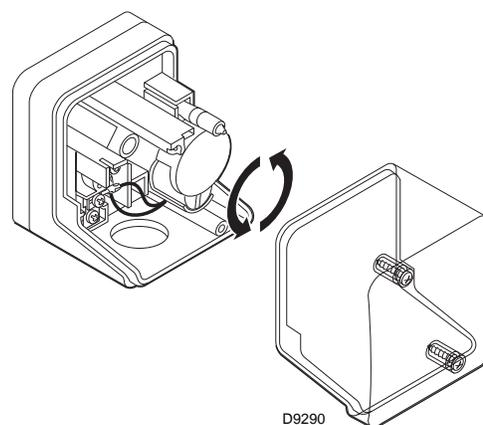

Fig. 37
- Adjust the minimum gas pressure (Fig. 37) switch to the start of the scale.
Adjust the minimum gas pressure switch after having performed all the other burner adjustments with the pressure switch set at the start of the scale (Fig. 37).